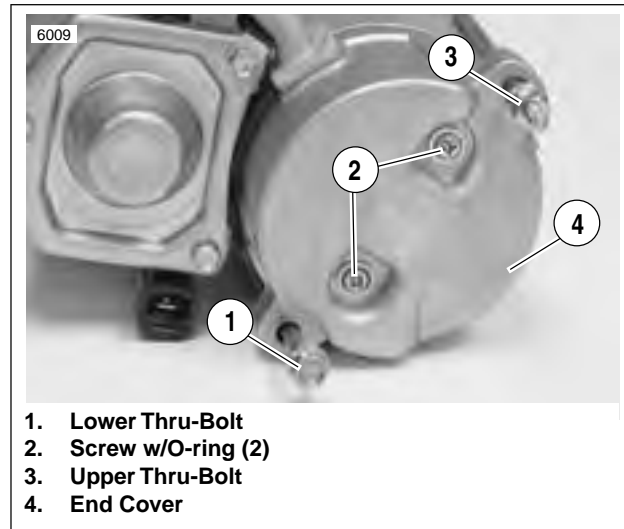
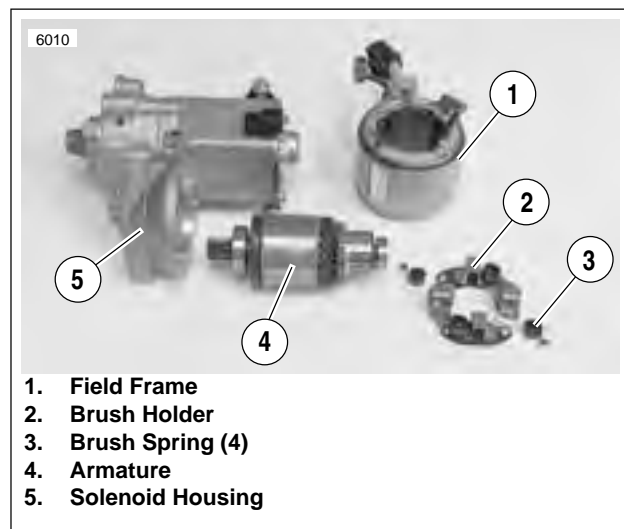

Figure 5-17. Removing the Thru-Bolts
Figure 5-18. Starter Components
2. See Figure 5-17. Remove both thru-bolts (1, 3).
3. Remove both end cover screws with O-rings (2) and end cover (4).
4. See Figure 5-18. Use a wire hook to pull upward on brush springs (3), and lift brushes out of holder (2). Remove brush holder.